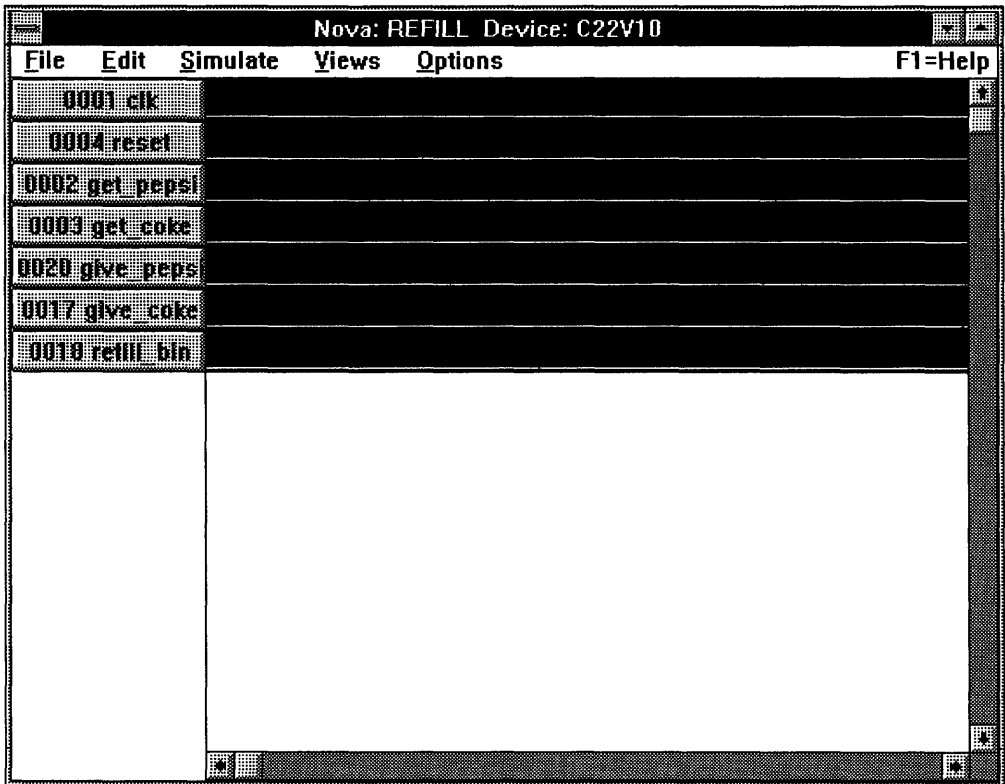

Figure 2-11. Nova Display Screen With New View Defined.
5. Click on "OK". The new view should appear on the Nova display screen, and should look like Figure 2-11.